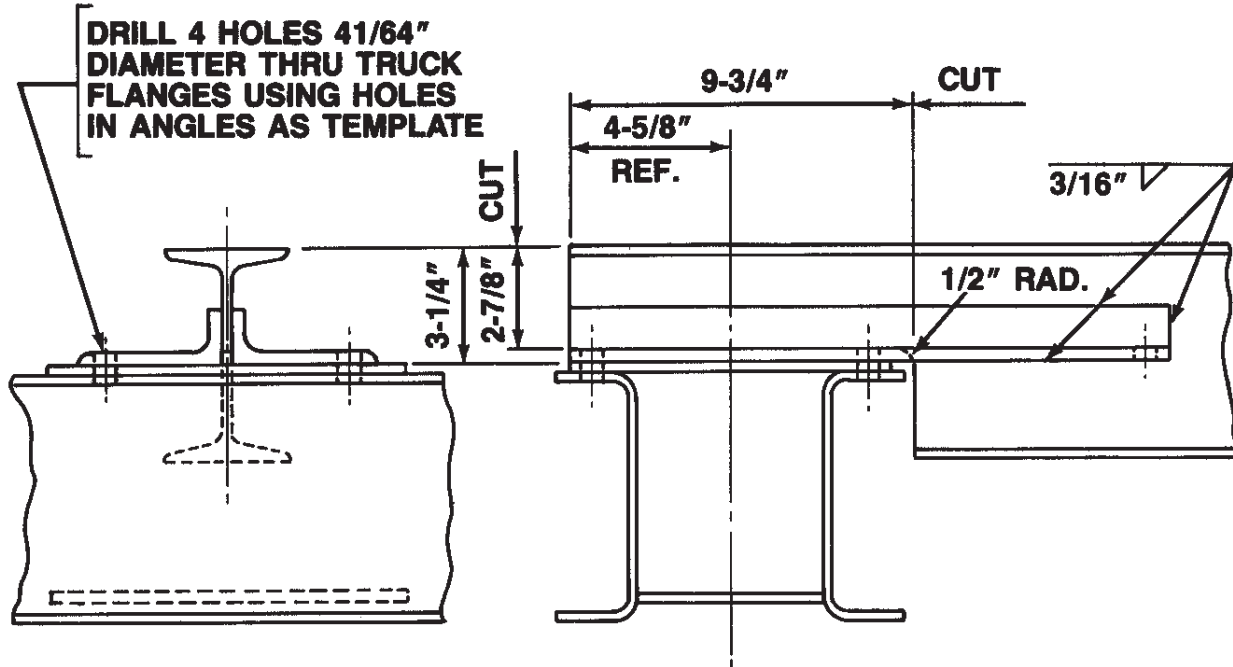

Figure 6.
4. For beams over 7" deep; when leveling the bottom flange of the bridge beam, clamp the short angle in position shown in Figure 6 to secure the position of the beam. Discard short angles for 6" and 7" beams.
7. When all dimensions are confirmed, bottom flange of bridge beam is parallel to wheels of truck and truck is securely clamped to bridge beam, weld the two long angles at each end of the bridge beam to the web as shown in Figure 6.
9. For beams over 7" deep, weld the short angle at each end of the bridge beam to the web as shown in Figure 6.
10. Drill 2 holes 41/64" diameter thru bridge beam web, using holes in angle as a template, in locations shown in Figure 6, at both ends of bridge.